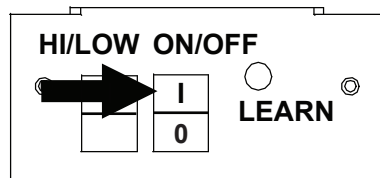

Figure 9b - Burner System Switch in ON Position
1. Set the ON/OFF switch to the ON position. (See Figure 9b)